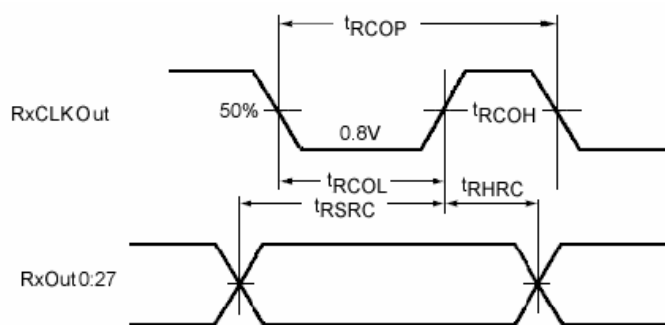

Figure 12. Receiver Setup/Hold and HIGH/LOW Times
| $t_{RCOP}$  | Receiver Clock Output (RxCLKOut) Period                    | Figure 12Rising Edge Strobe$f=85\text{MHz}$               | 11.76 | T     | 50.00 |               |
| $t_{RCOP}$  | Receiver Clock Output (RxCLKOut) Period                    | Figure 12                                                           | 15   | T    | 50   | ns            |
| $t_{RCOL}$  | RxCLKOut LOW Time                                          | Figure 12Rising Edge Strobe$f=40\text{MHz}$                 | 10.0 | 11.0 |      | ns            |
| $t_{RCOL}$  | RxCLKOut LOW Time                                          | Figure 12Rising Edge Strobe (18)$f=66\text{MHz}$ | 5.0  | 6.3  | 9.0  | ns            |
| $t_{ROHL}$  | Output Fall Time (20% to 80%)                              | Figure 12                                                           |      | 1.8  | 5.0  |               |